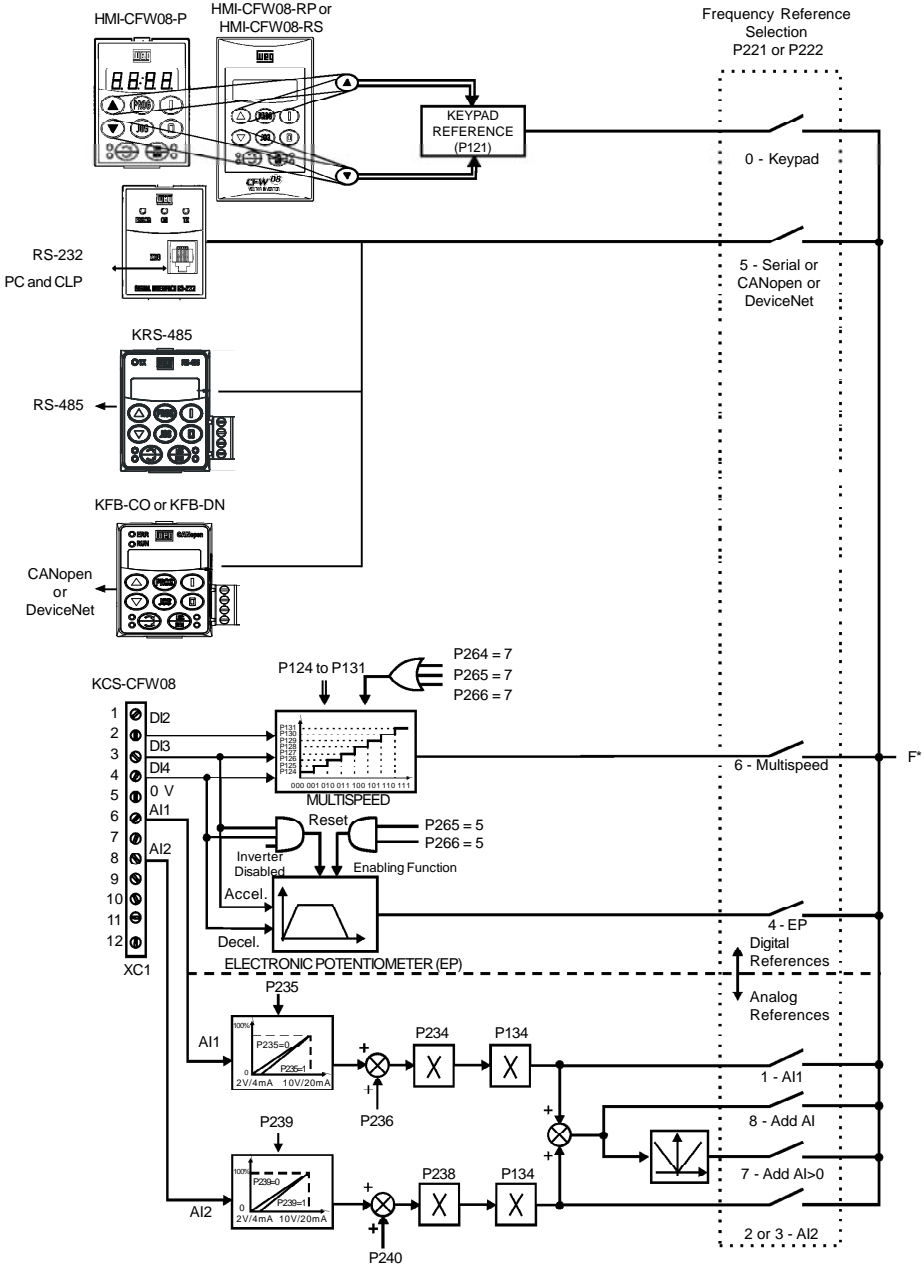

Figure 6.1 - Block diagram of the frequency reference
Figure 6.1 shows through a diagram block the frequency reference definition to be used by the inverter.
- ☑ In V/F control mode ($P202 = 0$ or 1), $F_e = F^*$ (refer to figure 6.1) if $P138 = 0$ (slip compensation disabled). If $P138 \neq 0$, refer to figure 6.9 for the relation between F_e and F^* .
- ☑ In vector control mode ($P202 = 2$) always $F_e = F^*$ (refer to figure 6.1).